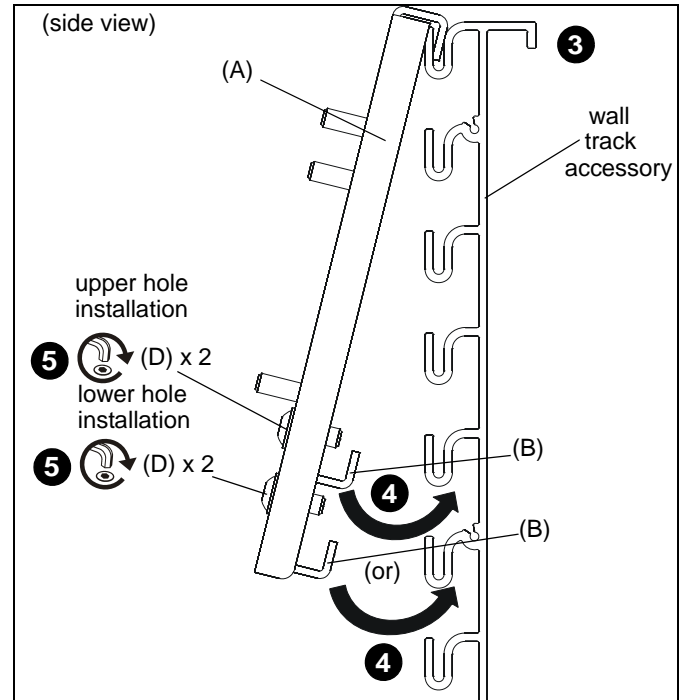

Figure 2
1. Determine whether to use upper or lower holes to attach OFB209 main plate (A) to locking plate (B). Use lower holes if possible for easier installation. If unable to attach using lower holes, use upper holes to attach plates. (See Figure 2)
3. Hang top of main plate (A) over the top of wall track assembly. (See Figure 2)
4. Maneuver main plate (A) towards wall track accessory and latch locking plate under corresponding groove. Loosen screws (D) if necessary. (See Figure 2)
5. Tighten two screws (D) until main plate is secured to wall track accessory. (See Figure 2)